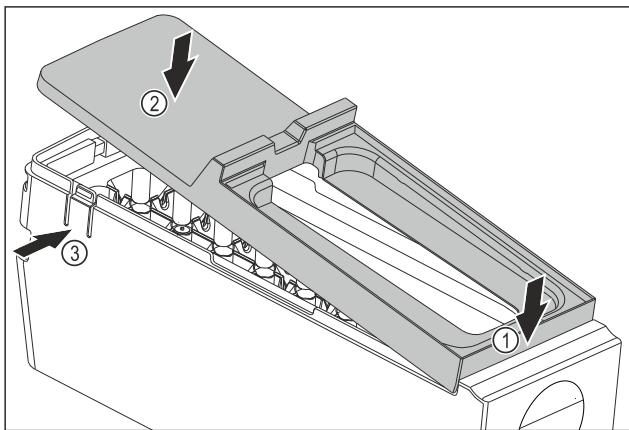

Fig. 168
- Installing the cover of the EasyTwist-Ice body: Fit the cover at the front. Fig. 168 (1)
- Lower the cover at the rear. Fig. 168 (2)
- The cover snaps audibly into place in both tabs Fig. 168 (3).